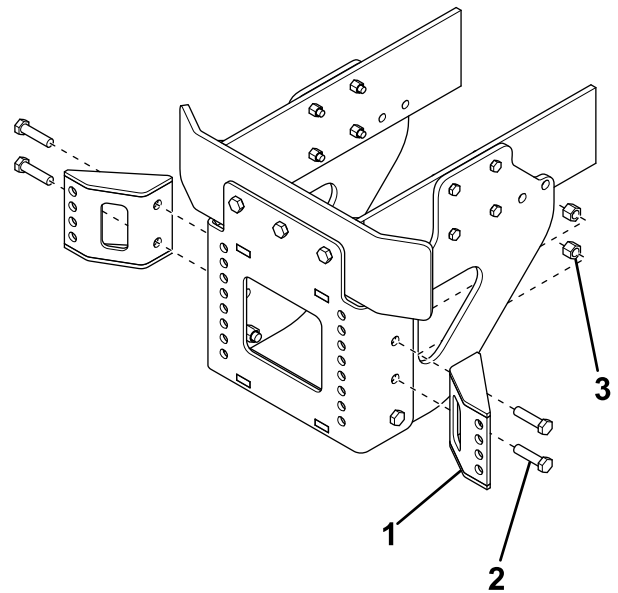

**Figure 4**
6. Secure the front plate to the frame and side plates using 7 bolts (1/2 x 1-1/2 inches) and nuts (Figure 4).